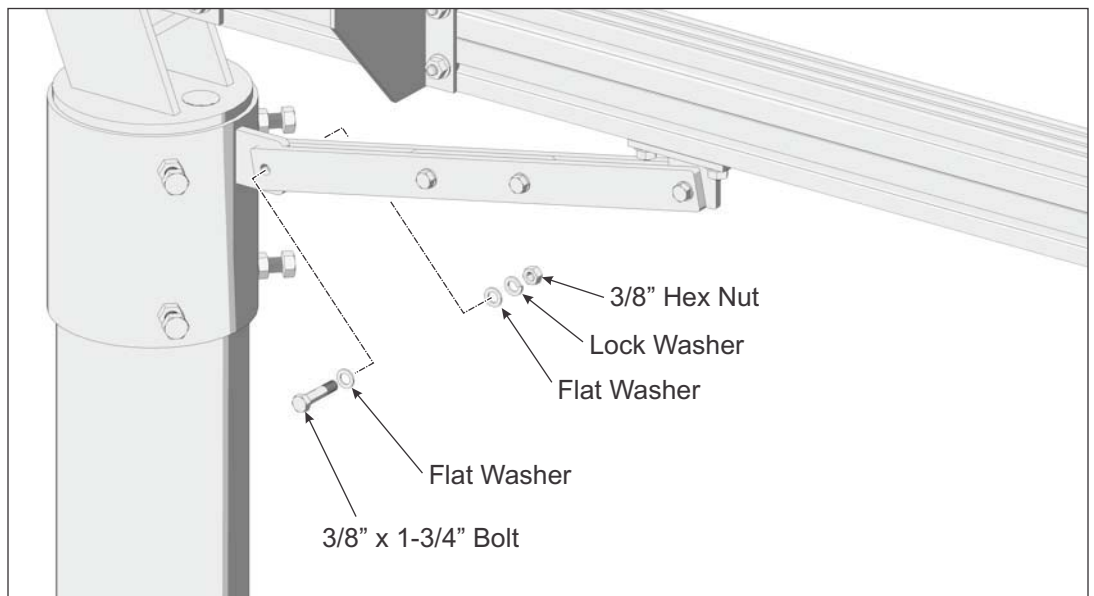

Figure 4-3: Securing Support Bar to Mounting Sleeve
- G. Slide the Support Bar Mounting Tab to align the mounting holes of the Support Bar with its Pivot Tab on the Mounting Sleeve. Slide the Support Bar over the Pivot Tab. Insert the 3/8" x 1-3/4" bolt and one flat washer thru the Support Bar and Mounting Tab and secure it with the remaining flat washer, lock washer and hex nut. **Torque hardware on both ends of Support Bar at 32-34 ft.-lbs. Torque the 3/8" Flange Nuts at 32-34 ft.-lbs.** (See Figure 4-3)